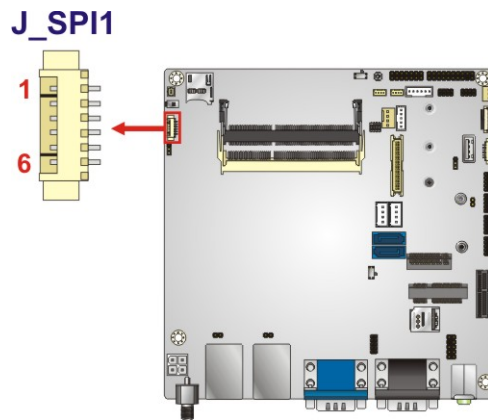

Figure 3-24: BIOS SPI Flash Connector Location
- CN Location:** See **Figure 3-24**